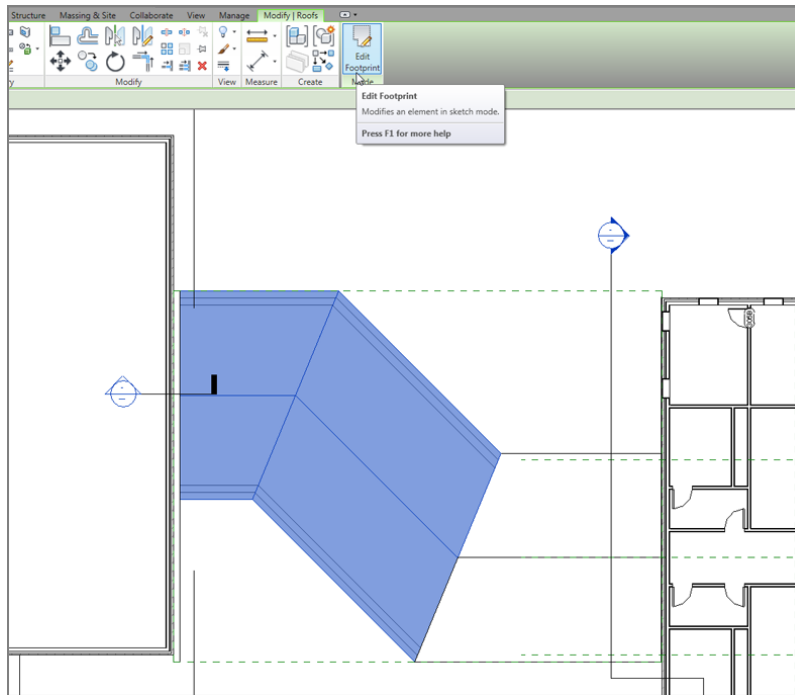

FIGURE 7.59: Selecting the roof to be modified
3. Select the corridor roof, as shown in Figure 7.59.